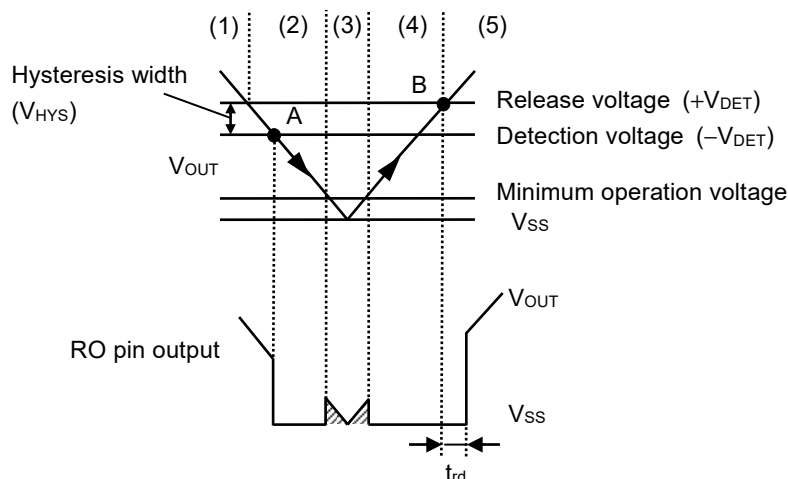

Figure 23 Timing Chart of Detector Block
- (1) When the output voltage (V_{OUT}) of the regulator is release voltage ($+V_{DET}$) of the detector or higher, the Nch transistor (N1 and N2) are turned off and "H" is output to the RO pin. Since the Pch transistor (P1) is turned on, the input voltage to the comparator (C1) is $\frac{R_B \cdot V_{OUT}}{R_A + R_B}$.
- (2) Even if V_{OUT} decreases to $+V_{DET}$ or lower, "H" is output to the RO pin when V_{OUT} is the detection voltage ($-V_{DET}$) or higher. When V_{OUT} decreases to $-V_{DET}$ (point A in **Figure 23**) or lower, N1 which is controlled by C1 is turned on, and C_{DLY} is discharged. At the same time, N2, which is controlled by the delay circuit, is turned on, and "L" is output to the RO pin. At this time, P1 is turned off, and the input voltage to C1 is $\frac{R_B \cdot V_{OUT}}{R_A + R_B + R_C}$.
- (3) If V_{OUT} further decreases to the IC's minimum operation voltage or lower, the RO pin output becomes uncertain. If the RO pin is pulled up, "H" is output.
- (4) When V_{OUT} increases to the IC's minimum operation voltage or higher, "L" is output to the RO pin. Moreover, even if V_{OUT} exceeds $-V_{DET}$, the output is "L" when V_{OUT} is lower than $+V_{DET}$.
- (5) When V_{OUT} increases to $+V_{DET}$ (point B in **Figure 23**) or higher, N1 is turned off and C_{DLY} is charged. When V_{DLY} increases to the threshold voltage (1.25 V typ.), N2, which is controlled by a delay circuit, is turned off and "H" is output to the RO pin.